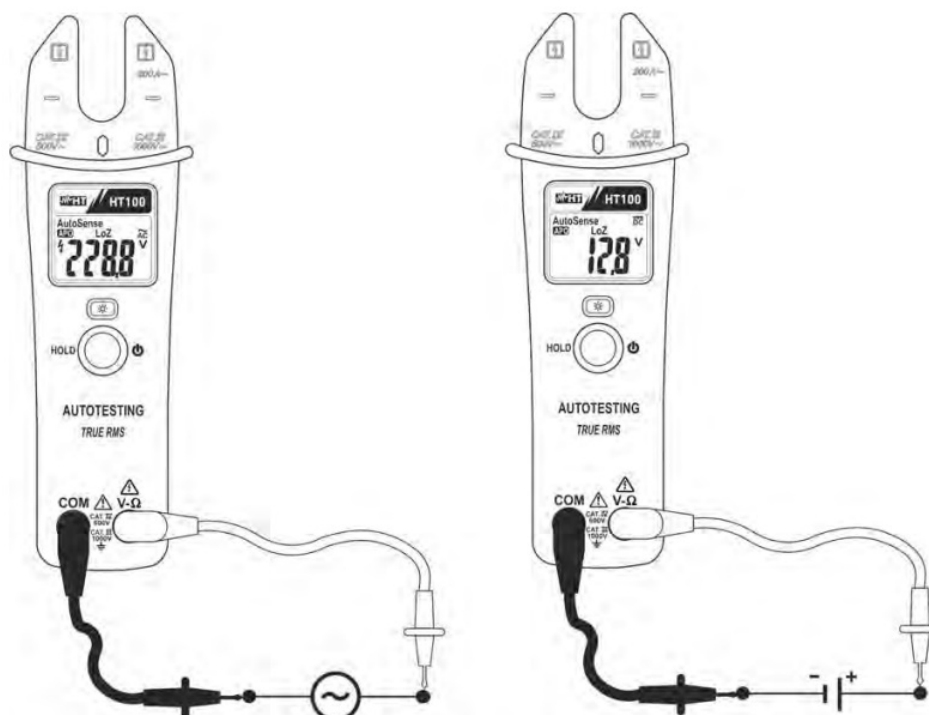

Fig. 3: Taking AC and DC voltage measurement
2. Connect the two long ends of test leads to the desired circuit (see Fig. 3) then reading will be displayed. The
4. The "-" symbol at display means that the DC voltage have an opposite sign respect the connection of Fig. 3